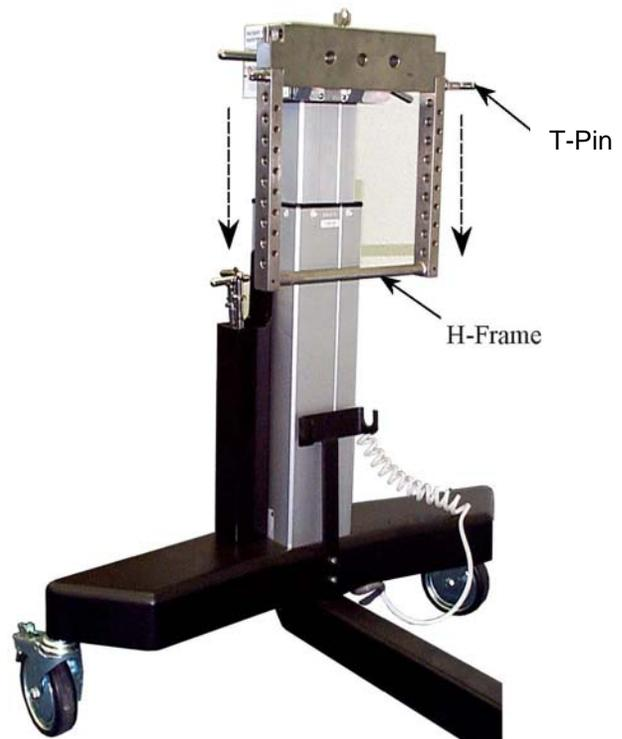

Figure 10: H-Frame Installed
**Step 1** Remove the “H” Frame from the “H” Frame Storage Bracket located on the Head End Column. Install “H”-Frame to Head End Crossbar and secure it with a T-Pin. T-Pins are stored in the T Pin quiver located on each column. The T-Pin must extend completely through both sides of the “H” Frame and the Drop Lock should be in sight and pivot freely. (See Fig. 10)